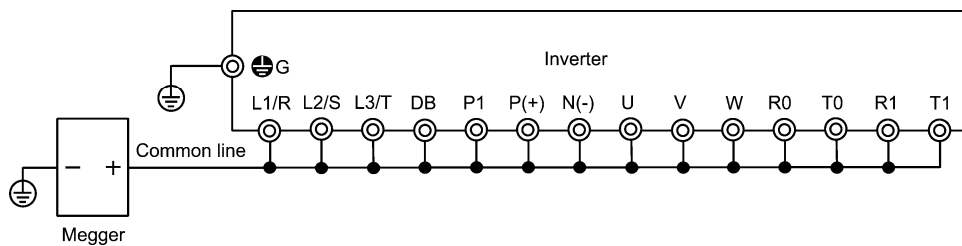

Figure 7.5-1 Main Circuit Terminal Connection for Megger Test
- 3) Connect the main circuit terminals with a common line as shown in Figure 7.5-1.